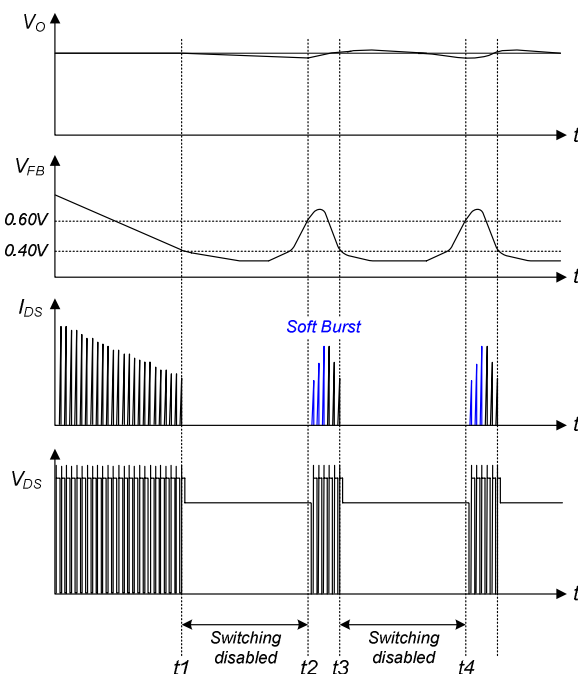

Figure 23. Burst-Mode Operation
5. Soft Burst-Mode Operation: To minimize power dissipation in standby mode, the FSGM0765R enters burst-mode operation. As the load decreases, the feedback voltage decreases. As shown in Figure 23, the device automatically enters burst mode when the feedback voltage drops below V_{BURL} (400mV). At this point, switching stops and the output voltages start to drop at a rate dependent on standby current load. This causes the feedback voltage to rise. Once it passes V_{BURH} (600mV), switching resumes. At this point, the drain current peak increases gradually. This soft burst-mode can reduce audible noise during burst-mode operation. The feedback voltage then falls and the process repeats. Burst-mode operation alternately enables and disables switching of the SenseFET, thereby reducing switching loss in standby mode.